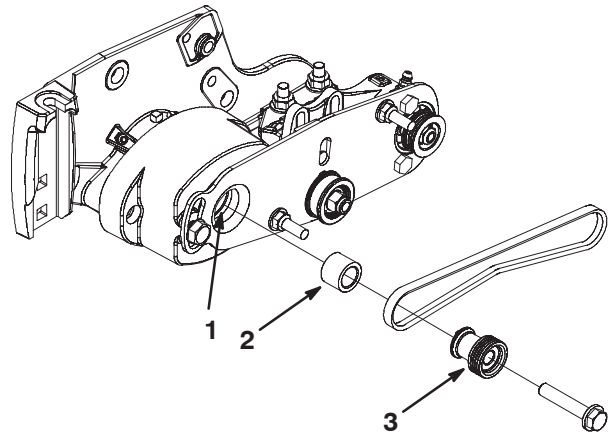

Figure 12
16. Insert the spacer onto the shaft in the bearing housing (Fig. 12).
17. Insert the drive pulley into the spacer and onto the drive shaft (Fig. 12). Make sure the pulley tabs are positioned in the slot in the drive shaft.
18. Secure the pulley and spacer to the drive shaft with a 3/8 x 2 inch flange head bolt (Fig. 12). **Torque the bolt to 35–40 ft-lb.**